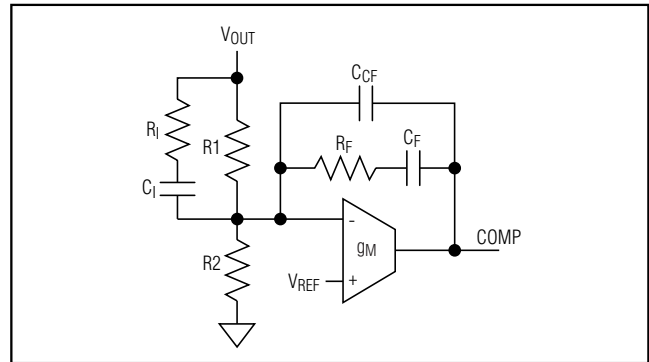

Figure 8. Type III Compensation Network
**Procedure 2 (See Figure 8):**